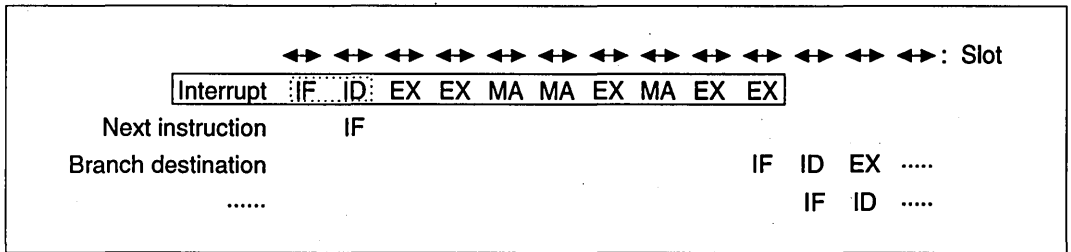

Figure 8.95 Interrupt Exception Processing Pipeline
Operation: The interrupt is received during the ID stage of the instruction and everything after the ID stage is replaced by the interrupt exception processing sequence. The pipeline has ten stages: IF, ID, EX, EX, MA, MA, EX, MA, EX, and EX (figure 8.95). Interrupt exception processing is not a delayed branch. In interrupt exception processing, an overrun fetch (IF) occurs. In branch destination instructions, the IF starts from the slot that has the final EX in the interrupt exception processing.